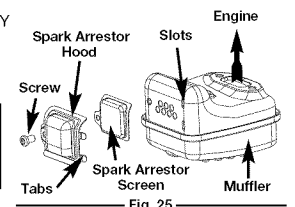

Fig. 25
2. Locate the muffler, but do not remove it. Find the one (1) screw on the bottom of the muffler (Fig. 25). These two screws hold the Spark Arrestor Hood Assembly and the spark arrestor screen to the bottom of the muffler. Remove the two (2) screws using either a torx #20 or flat blade screwdriver.
6. Place the spark arrestor plate on top of the spark arrestor with the "raised" side up and the opening facing towards the engine (Fig. 25).
7. Place the spark arrestor hood on top of the spark arrestor plate with the "raised" side up and the opening facing AWAY from the engine (Fig. 25). Verify that the exhaust will be directed AWAY from the engine.